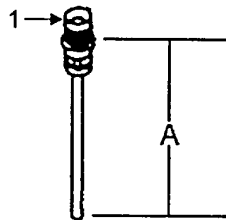

FIGURE 5-30. PUSHROD
- a. Adjust complete pushrod (Figure 5-30, Item 1) so dimension "A", measured from bottom of pushrod to the top of the collar, equals 5.8189/5.8268 inch (147.8/148.0 mm). This adjustment is required for proper engagement of complete pushrod with pinion on decompression shaft.